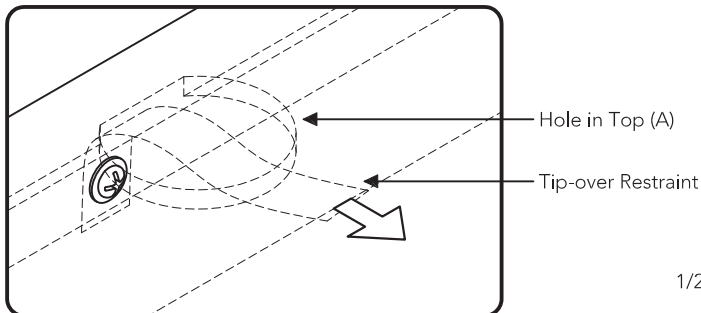

Figure 9
Move unit back into place and insert Tip-over Restraint into unit through hole in Top (A). (See Figure 9)